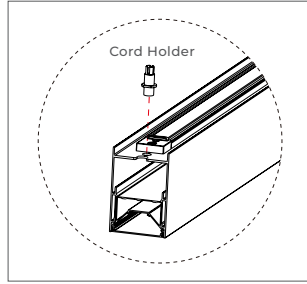

FIGURE 3-1
1) Prior to installation, take off the end cap, insert the cord holder into the power cord feed as shown in Figure 3-1.